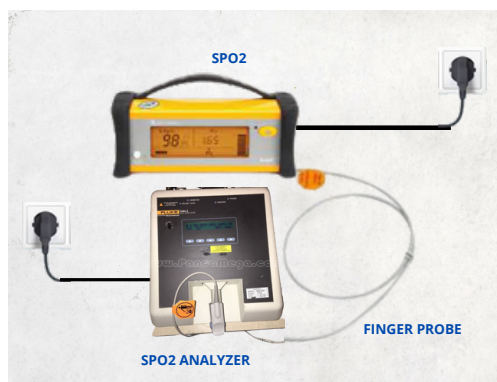

Figure 4.2: Connection Between Medical Equipment and SPO2 Analyzer
1. Connect the DUT to SPO2 Analyzer as indicated in Figure 4.2.